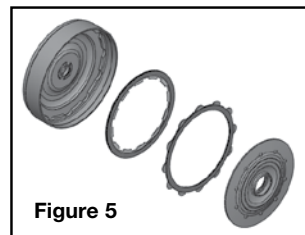

Figure 5
Start by dropping the internally splined (dual friction) clutch plate into the front cover (**Figure 5**).
- With the steel side towards the cover and the friction side towards the piston, install the externally splined (single friction) clutch plate into the front cover, rotating to engage the splines (**Figure 5**).